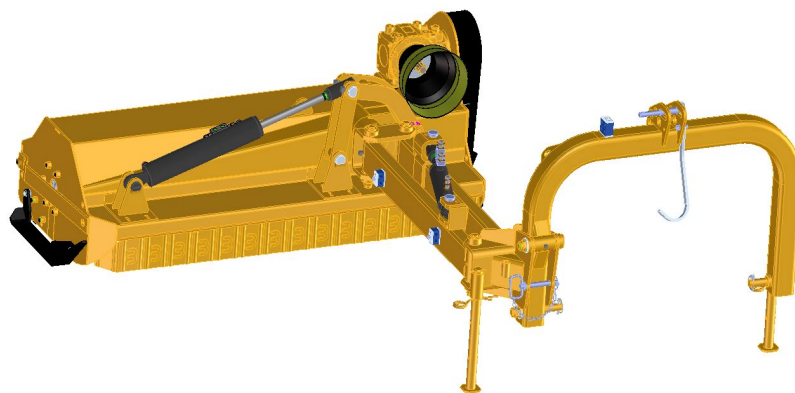

Figure 18
5. The machine is ready for connection to the tractor (figure 18).